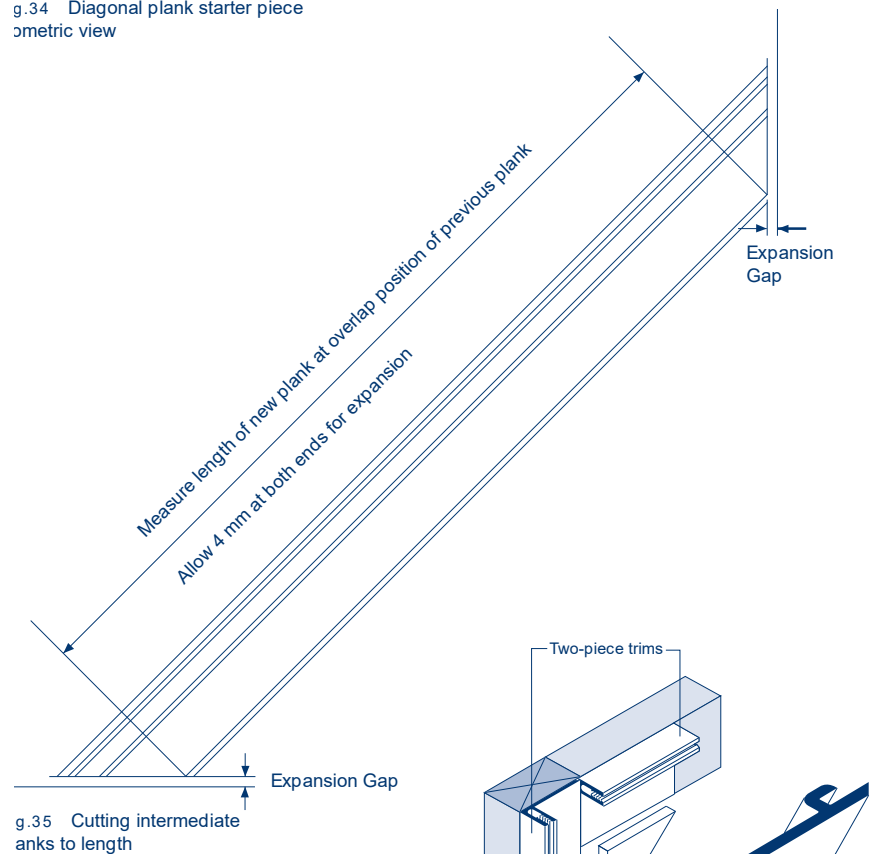

Fig. 35 Cutting intermediate
- Measure and cut carefully to length and angle of mitre before fitting (Figure 35).